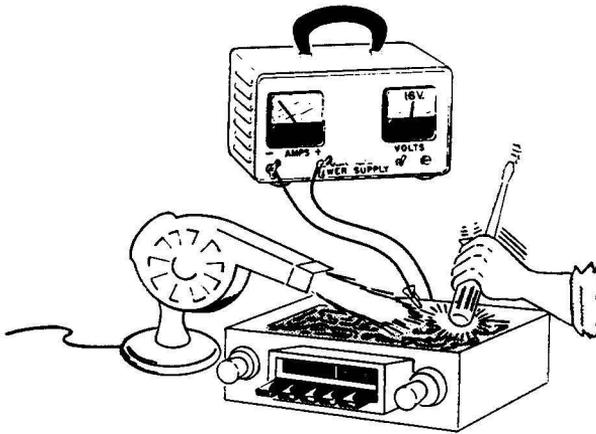

Fig. 8-7. Tapping the chassis, applying heat from hair dryer, and increasing input voltage to help locate intermittents.
4. Make sure radio is tapped and vibrated all over to test for intermittents (cars are in constant motion, causing all components to be jarred). Sometimes heat supplied by a hair dryer while the voltage is increased and the chassis tapped (Fig. 8-7) will cause intermittents to show up.